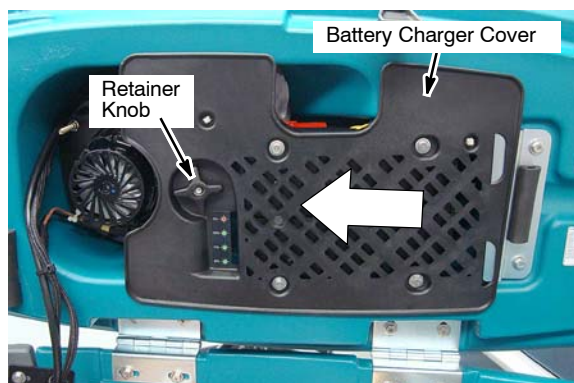

Fig. 2
2. Open the battery compartment and remove battery charger cover. To remove cover, completely unthread retainer knob and slide cover backwards to disengage from recovery tank (Figure 2).